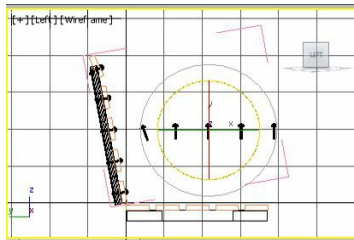

Figure 2-89 Rotating the right side seat rivets group in the Left viewport
8. Choose the **Select and Rotate** tool and select *right side seat rivets* in the Left viewport. Then, move the cursor over the Z-axis. Now, press the left mouse button and drag the cursor in the counterclockwise direction to rotate *right side seat rivets* until the angle of rotation in the **Z** spinner becomes **80**, refer to Figure 2-89.